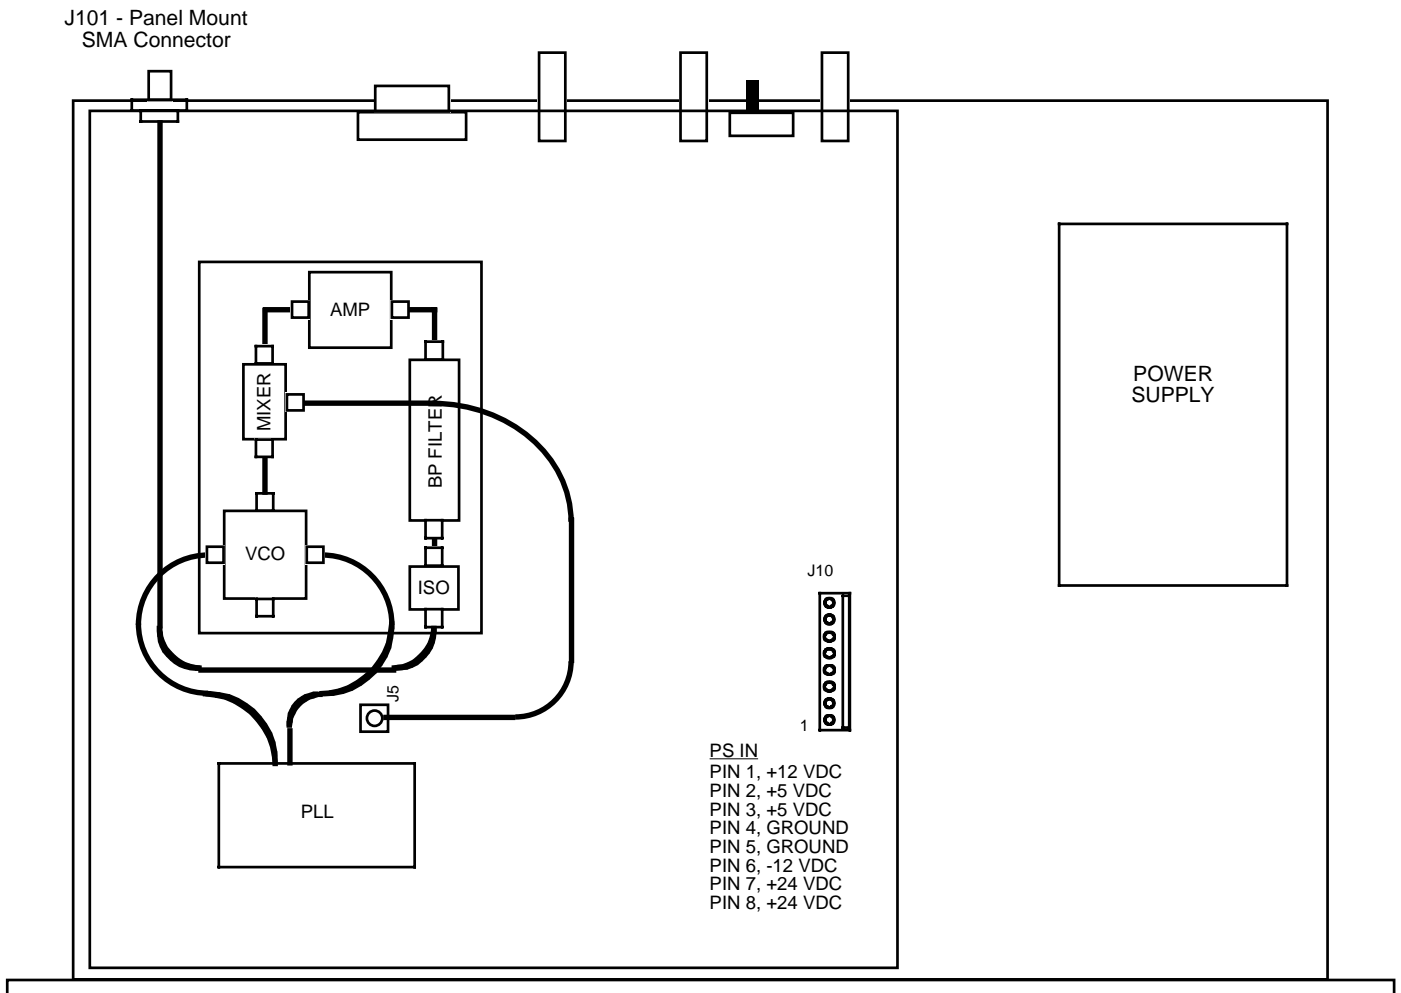

FIGURE 2.0 2115-139 Mechanical Assembly
2.1 Mechanical - The 2115-139 consists of one RF PCB housed in a 1 RU (1 3/4 inch high) by 12 inch deep chassis. A switching, ± 12 , $+24$, $+5$ VDC power supply provides power for the assemblies. The 2115-139 can be secured to a rack using the 4 holes on the front panel. Figure 2.0 shows how the 2115-139 is assembled.